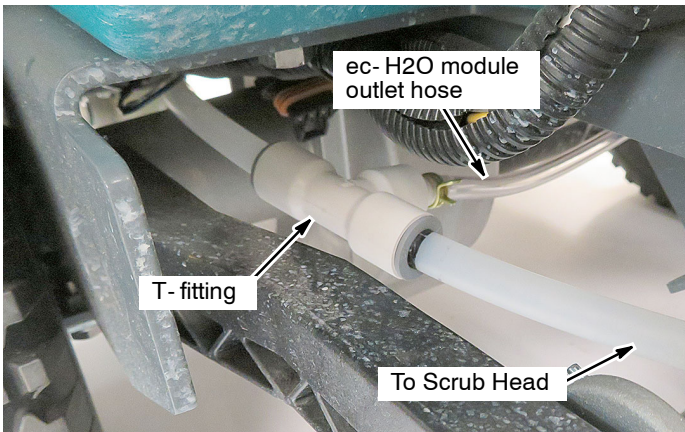

Fig. 15
14. Connect the T-fitting from the ec- H2O module outlet hose to the scrub head solution feed hose as shown (Figure 15).